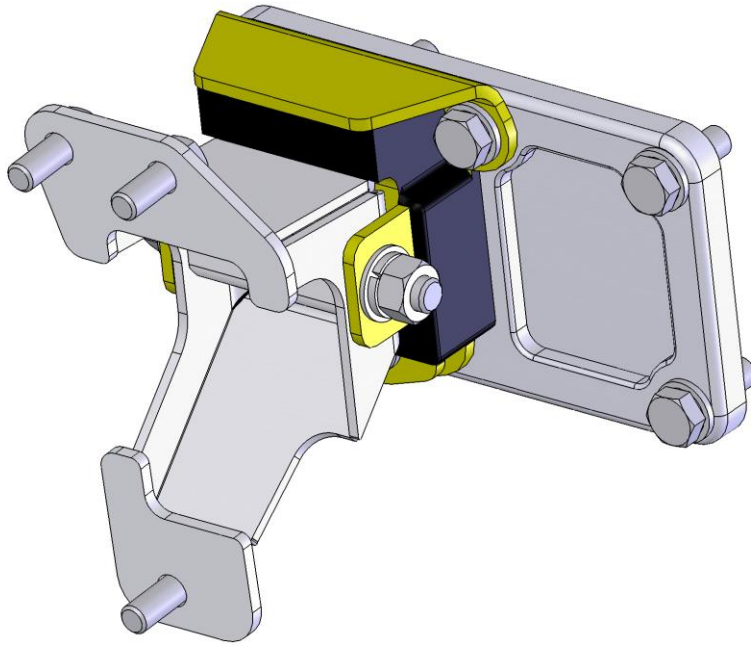

Figure 3 – Assembled View
5. Once everything is positioned correctly on the frame and engine. Attach the engine to the frame using two 7/16"-14 x 3-3/4" L hex head bolts (#9). Use the provided 7/16" flat washers (#11), 7/16" lock washers (#12) and the 7/16"-14 hex nuts (#10) to tighten everything in place. Torque these bolts to 30 ft. /lbs. Figure 3 on the next page shows an assembled view.